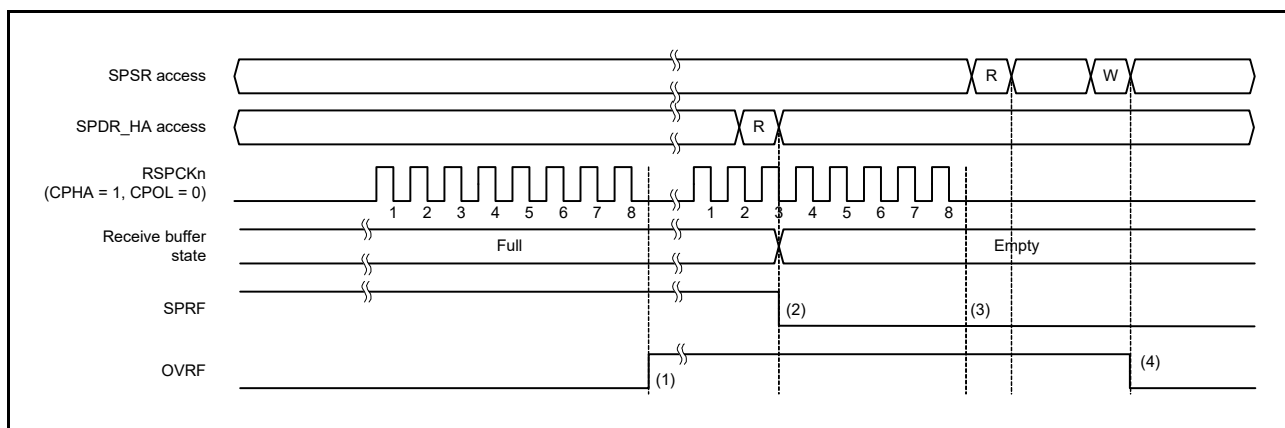

Figure 32.32 Operation example of OVRF and SPRF flags
Figure 32.32 shows an example operation of OVRF and SPRF flags. The SPSR and SPDR_HA accesses shown in Figure 32.32 indicate the condition of accesses to the SPSR and SPDR_HA, respectively, where W denotes a write cycle, and R a read cycle. In the example, the SPI performs an 8-bit serial transfer in which the SPCMDm.CPHA bit is 1 and the SPCMDm.CPOL bit is 0. The numbers given for RSPCKn in the waveform represent the number of RSPCK cycles, meaning the number of transferred bits.
The operation of the flags at the timing shown in (1) to (4) in Figure 32.32 is as follows:
- (1) If a serial transfer terminates with the SPRF flag set to 1 (the receive buffer full), the SPI detects an overrun error and sets the OVRF flag to 1. The SPI does not copy data in the shift register to the receive buffer. Even if the SPPE bit is 1, parity errors are not detected. In master mode for SPI0, the SPI copies the value of the SPCMDm pointer to the SPSSR.SPECM[2:0] bits.
- (2) When SPDR/SPDR_HA is read, the SPI outputs the data in the receive buffer. The SPRF flag is then set to 0. The emptying of the receive buffer does not set the OVRF flag to 0.
- (3) If the serial transfer ends with the OVRF flag set to 1 (an overrun error occurs), the SPI does not copy the data in the shift register to the receive buffer (the SPRF flag is not set to 1). A receive buffer full interrupt is not generated. Even when the SPPE bit is 1, parity errors are not detected. When in master mode for SPI0, the SPI does not update the SPSSR.SPECM[2:0] bits. When an overrun error occurs and the SPI does not copy the received data from the shift register to the receive buffer, on termination of the serial transfer, the SPI determines that the shift register is empty. This enables data transfer from the transmit buffer to the shift register.
- (4) If 0 is written to the OVRF flag after SPSR is read when the OVRF flag is 1, the OVRF flag is set to 0.